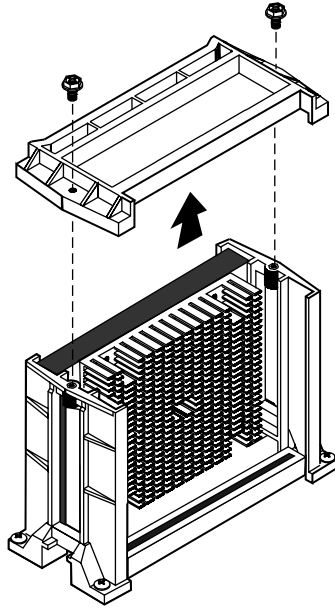

Figure 11: Removing the Lock Bar
3. Wearing an anti-static wristband grounded to the system chassis, remove the lock bar from the processor slot by removing the two screws that secure it (see Figure 11).
3. Remove the lock bar from the processor supports as shown in Figure 11 on page 27.